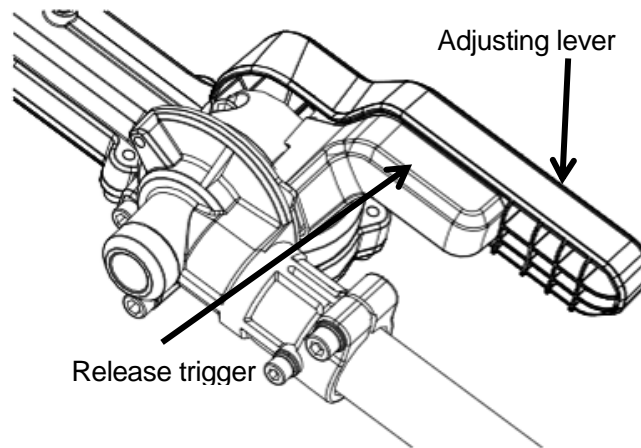

Fig. 15C
1. Press the release trigger down, and meanwhile, rotate the adjusting lever to adjust the blade to the desired cutting position as required. (Fig.15C)